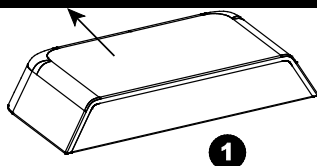

Fig. 4a – Opening Battery Cover
1. Press down on the battery cover and slide in the direction shown in Figure 4a to open.